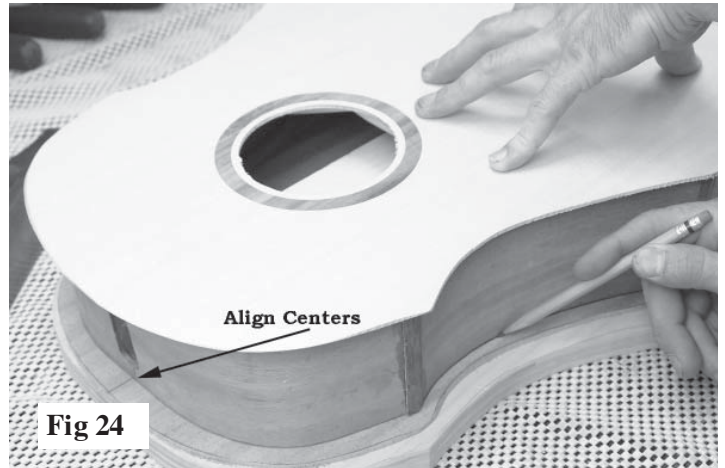

Fig 24
24. Turn the body over onto the inside of the back panel and center it carefully on the centerline. Draw around the outside of the frame with a pencil, as shown in fig 24.